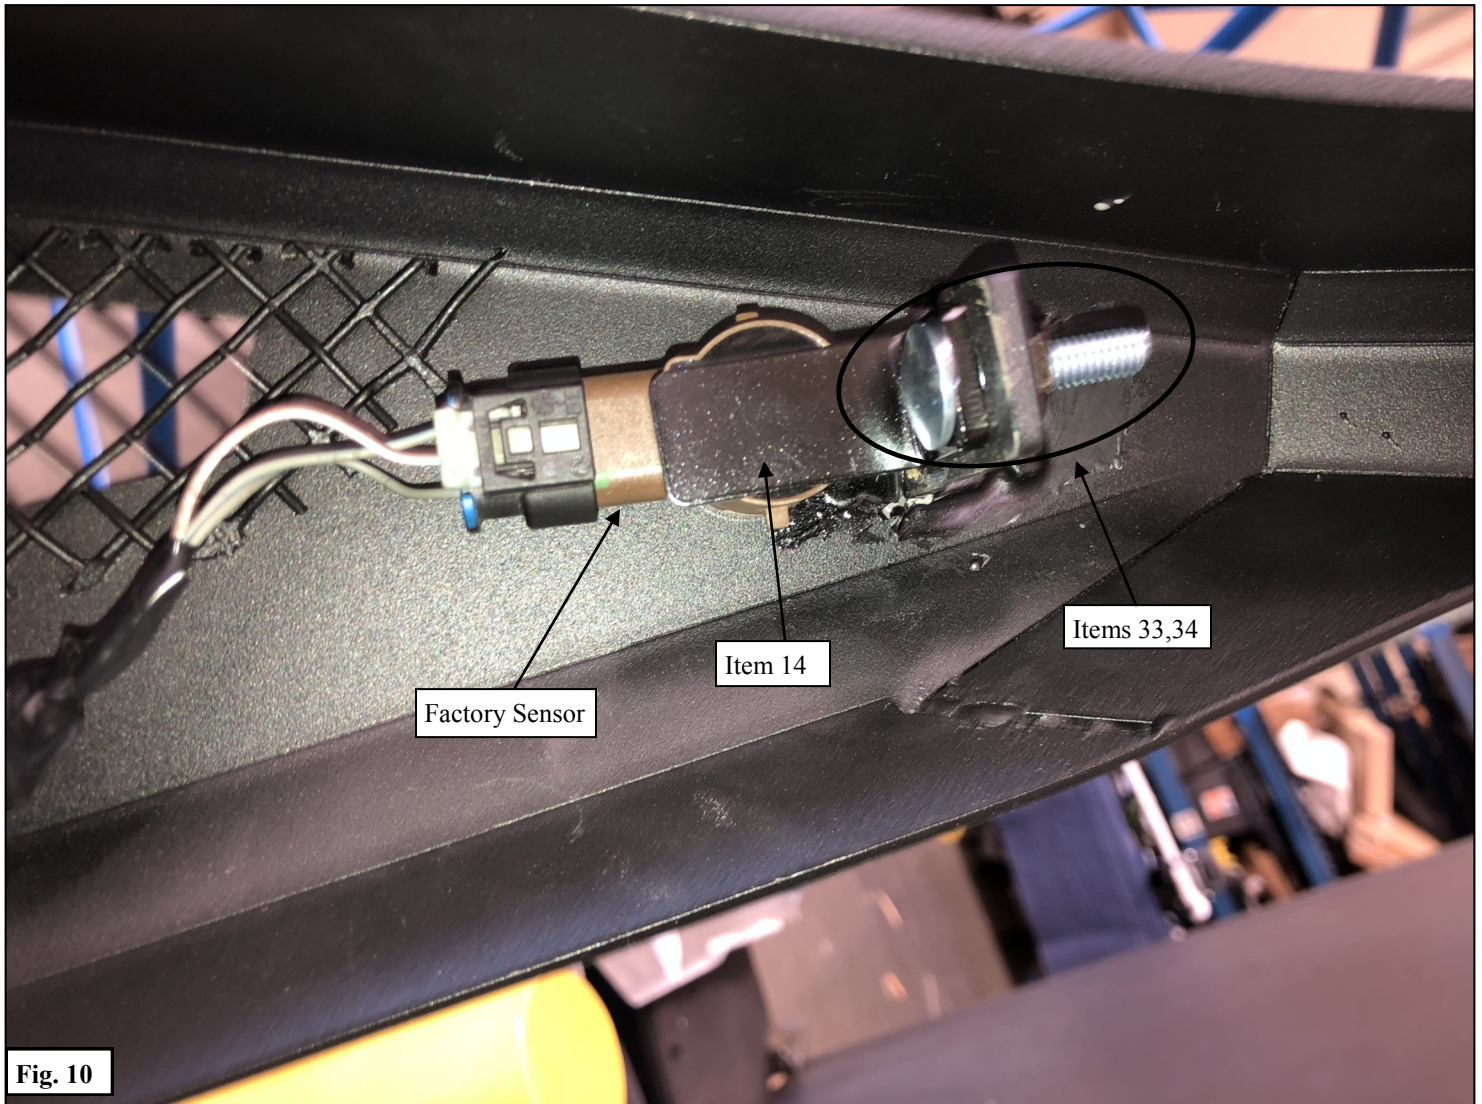

Fig. 10
***If not installing sensors, install Hole Plugs (20) into holes on bumper and proceed**
7. Use the Sensor Tab (14) along with the supplied M6 Hardware (33,34) to install the sensors as shown in **Figure 10**.